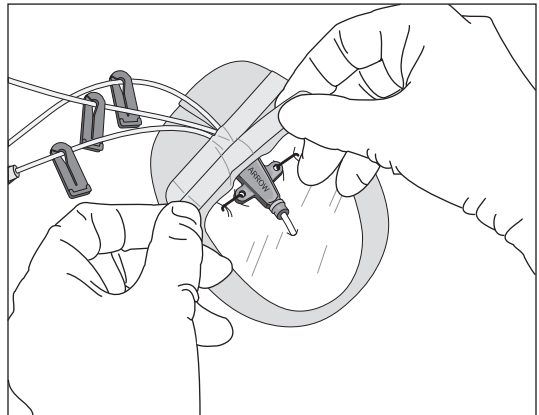

Figure 15
- Use sterile tape strips to secure hub, lumens, and/or tubing (refer to Figure 15).